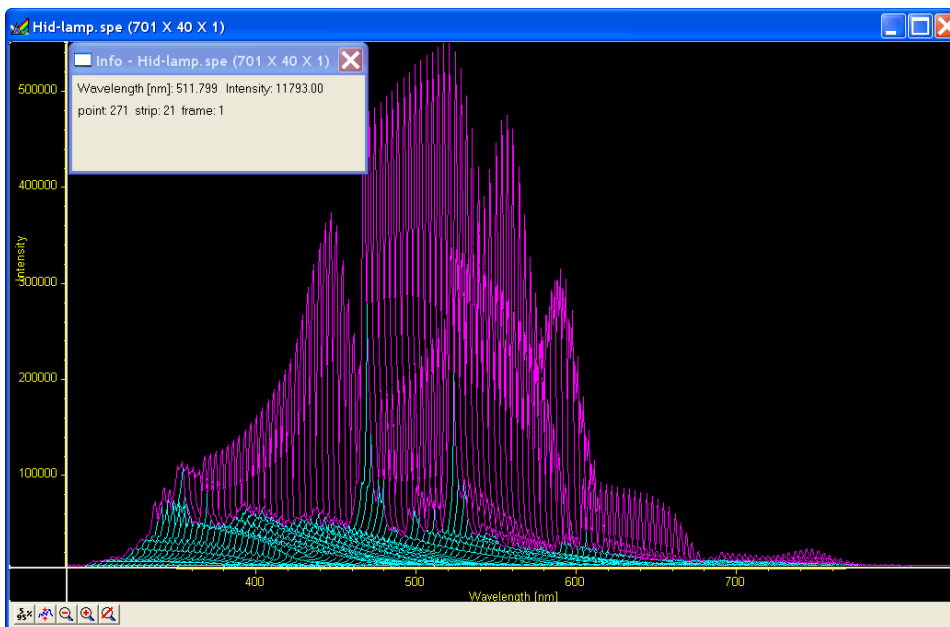

Figure 81. 3D Plot with Hidden Surfaces
3. Click on **OK**. The data should be redisplayed as shown in Figure 81, with the hidden surface clearly visible.